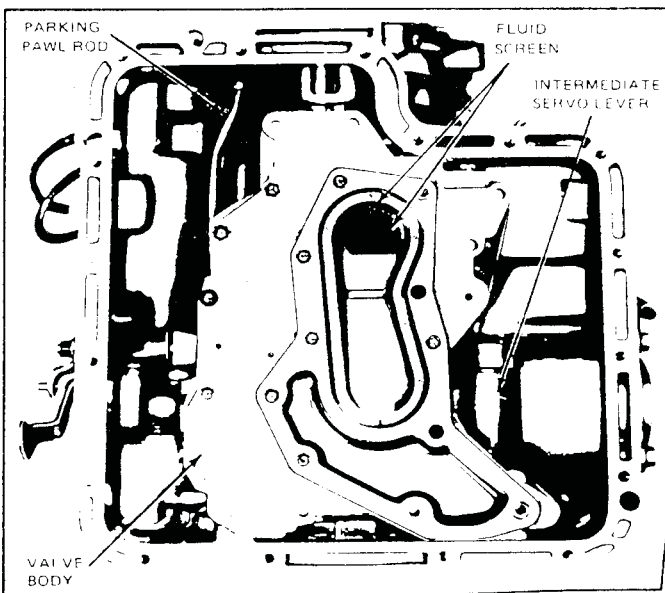

FIG. 17 Transmission With Pan Removed
3. Remove the eight valve body attaching bolts. Lift the valve body (Fig. 17) from the transmission case.